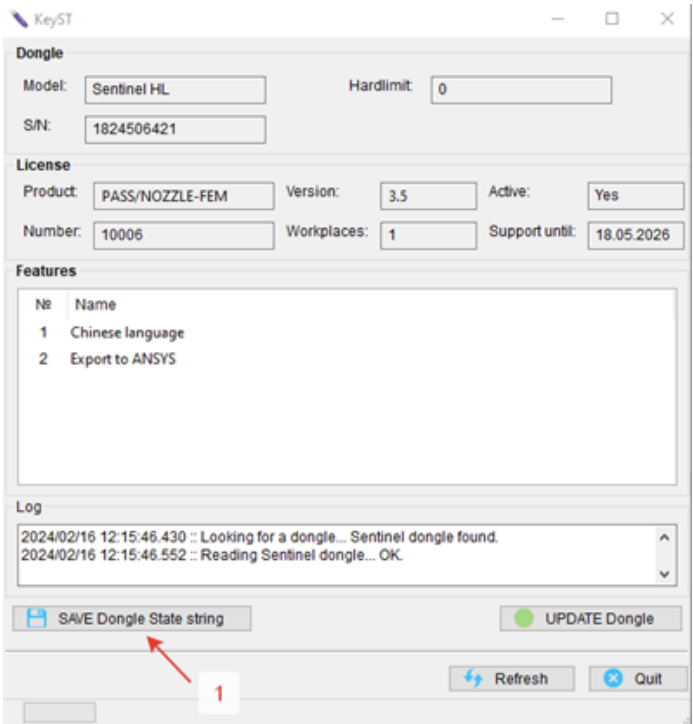

Fig. 2.14. Saving the state string of the Guardant/Sentinel HL dongle
1. You need to save the dongle state string. To do this, press the “Save state string” button and enter the filename (**Fig. 2.14**). For Sentinel HL